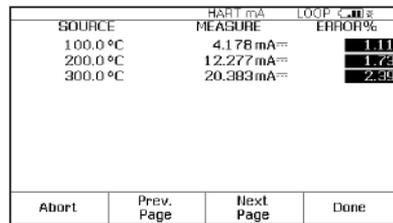

Figure 8.
- Once the DPC has completed this evaluation, it will display the post test summary screen with the SOURCE, MEASURE and ERROR columns. Failures in the error column will be in reverse video (Figure 8). Depress "Done."